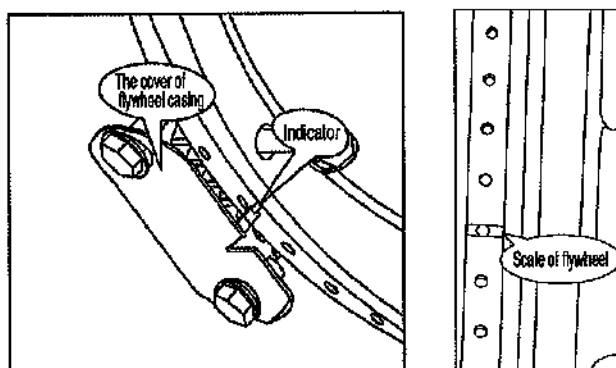

Fig 5 - 11
B. Dismantle valve rocker cover on the cylinder head to judge compressing stroke of cylinder 1 or cylinder 6 (There is clearance between inlet and outlet valves of cylinder with compressing stroke and rocker.). See Fig 5 - 12.